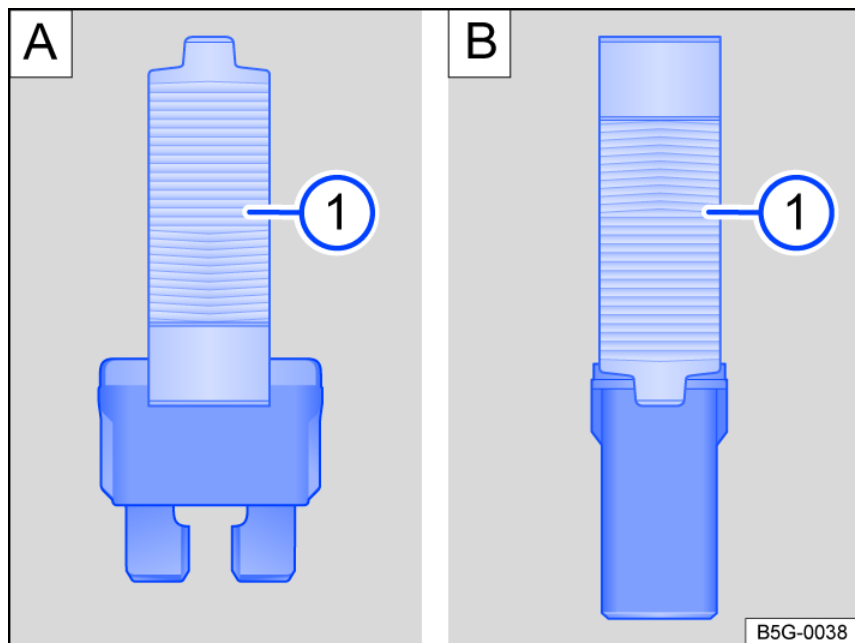

Fig. 141 Remove or install a fuse with the plastic pliers (general example).
- Depending on the fuse version, push the fitting clamp on the plastic pliers on the side of the fuse fig. 141 **A**  or fig. 141 **B** .